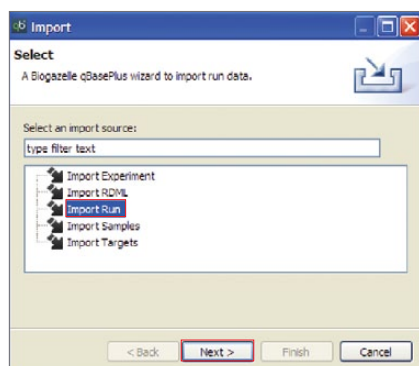

Fig. 9. Choosing to import a run.
8. In the Import window, select **Import Run**, then click **Next** (Figure 9).